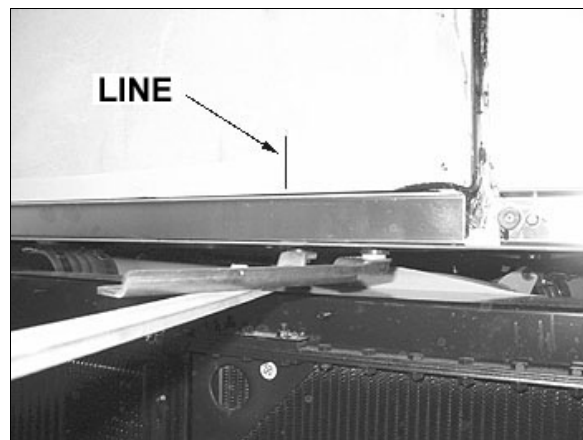

FIGURE 63: REFERENCE LINE
2. Using a rubber mallet, adjust the lower part of pantograph arm in order to get 4 ± 1 mm between lateral panel and engine door (Refer to Figure 63 and Figure 64).